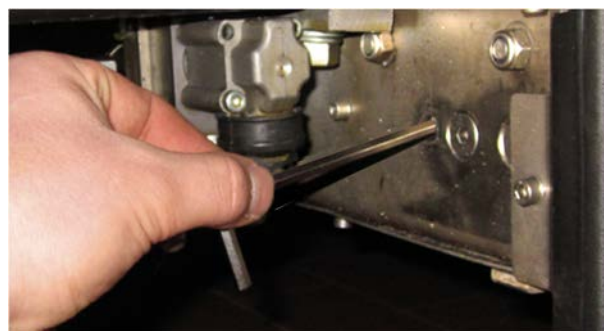

Figure 39: Releasing the Latch
- ⇒ Insert the hand pump lever or other suitable object straight into the hole (see Figure 39).